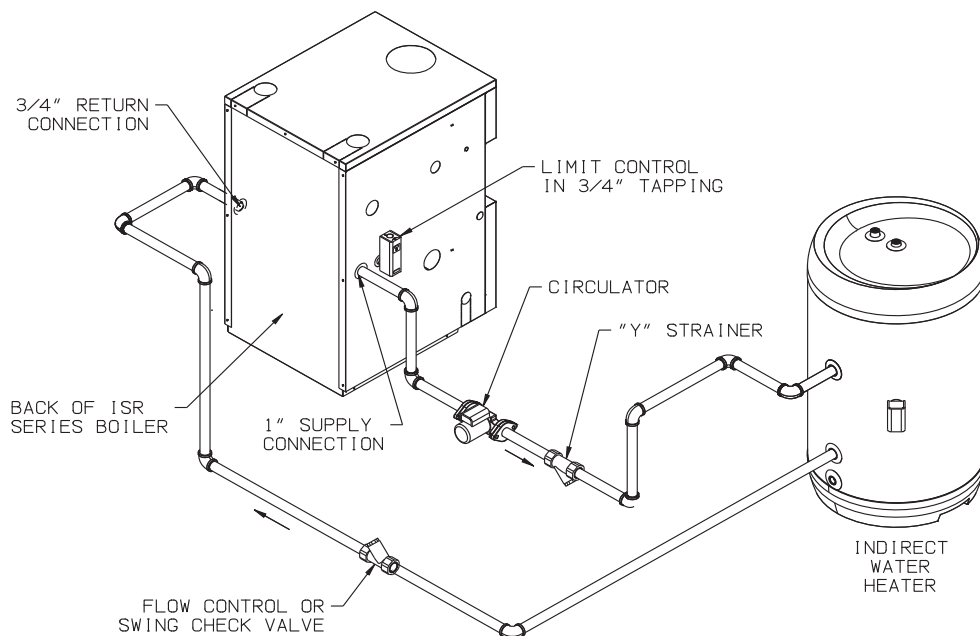

FIGURE 8.1: INDIRECT WATER HEATER BOILER-SIDE PIPING
1) Circulator - Mount the circulator as shown in Figure 8.1. The circulator should be located as low and as close to the boiler as practical. Do not install valves, or other devices having a significant pressure drop, between the boiler and the circulator inlet. All piping between the boiler and the circulator inlet should be 1", regardless of the size of the piping required in the rest of the system. See Figure 10.3 in Part X for wiring information.